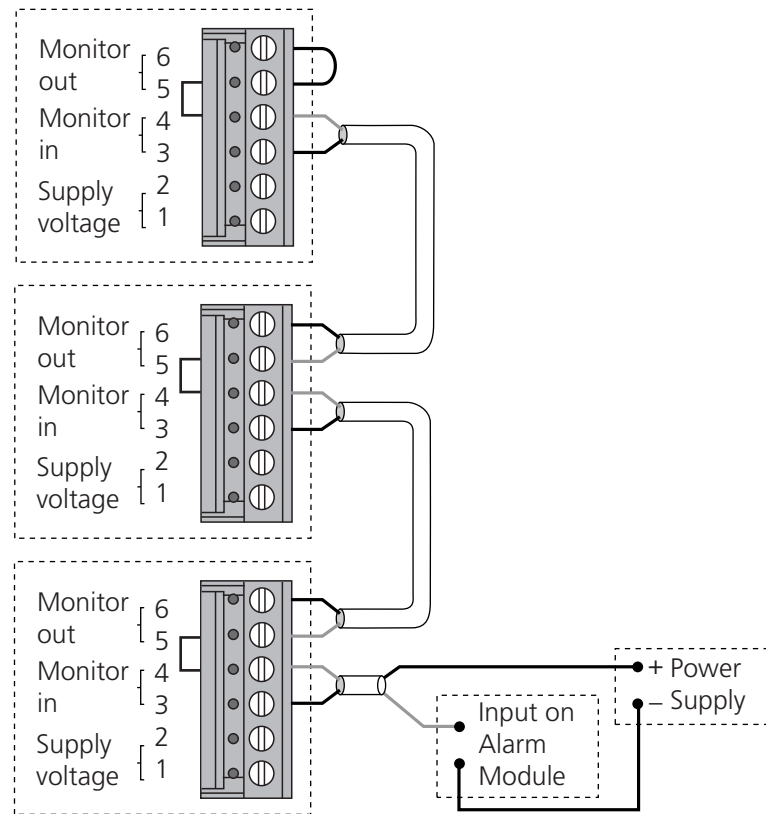

Figure 26. Connection of locator monitoring for L951LP units.
- 1 Connect J01:3 on the Locator or J06:4 on the Power Amplifier to the positive pole on the external Power Supply (+12 or +24 V DC). Connect J01:4 on a Locator or J06:3 on a Power Amplifier, and the negative pole on the external Power Supply to the Alarm Module (T941AM8 or T941AM32 – see *Installation Guide* for the Alarm Modules). See figure 26 above for more information.